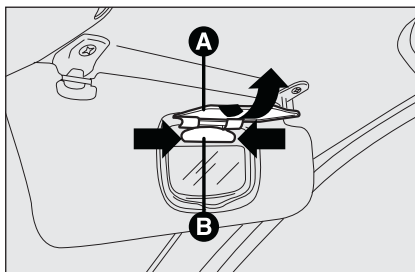

fig. 45
- ☐ open the mirror cover **A**-fig. 45;